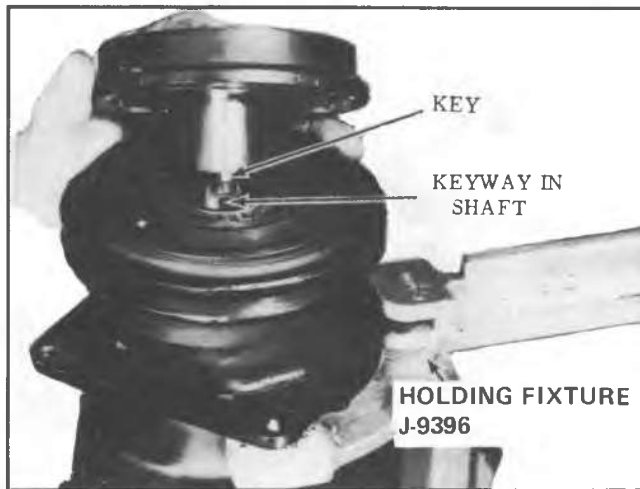

Fig. 7--Aligning Drive Plate Key
2. Line up the key in the hub with keyway in the shaft (Fig. 7).